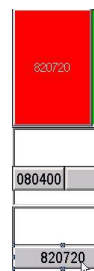

Figure 134: Highlighting Bins by Colors
- 1) Move the mouse pointer slightly over the process. The assigned bin will be highlighted. *Please refer to the Figure 134.*